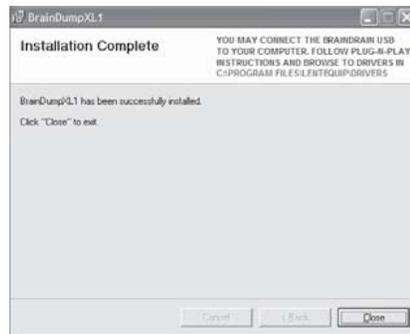

Figure 12
- 1) Click Close to exit the BrainDumpXL1 installation (Figure 12)
If everything is OK, in a few seconds BrainDumpXL1 installation will be complete as illustrated in Figure 12.